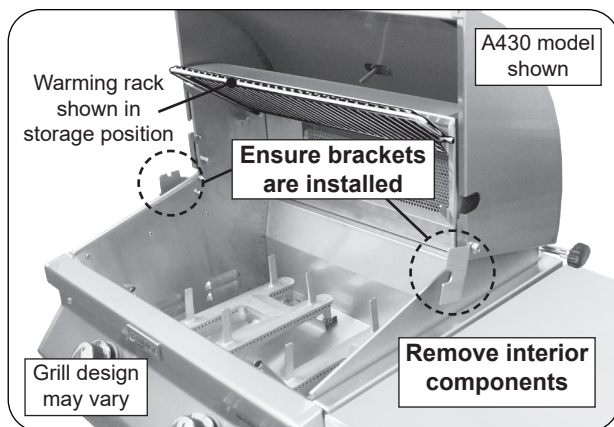

Fig. 35-1 Prepare grill for rotissing
1. Set the warming rack to storage position, remove the backburner cover and cooking grids (see Fig. 35-1).